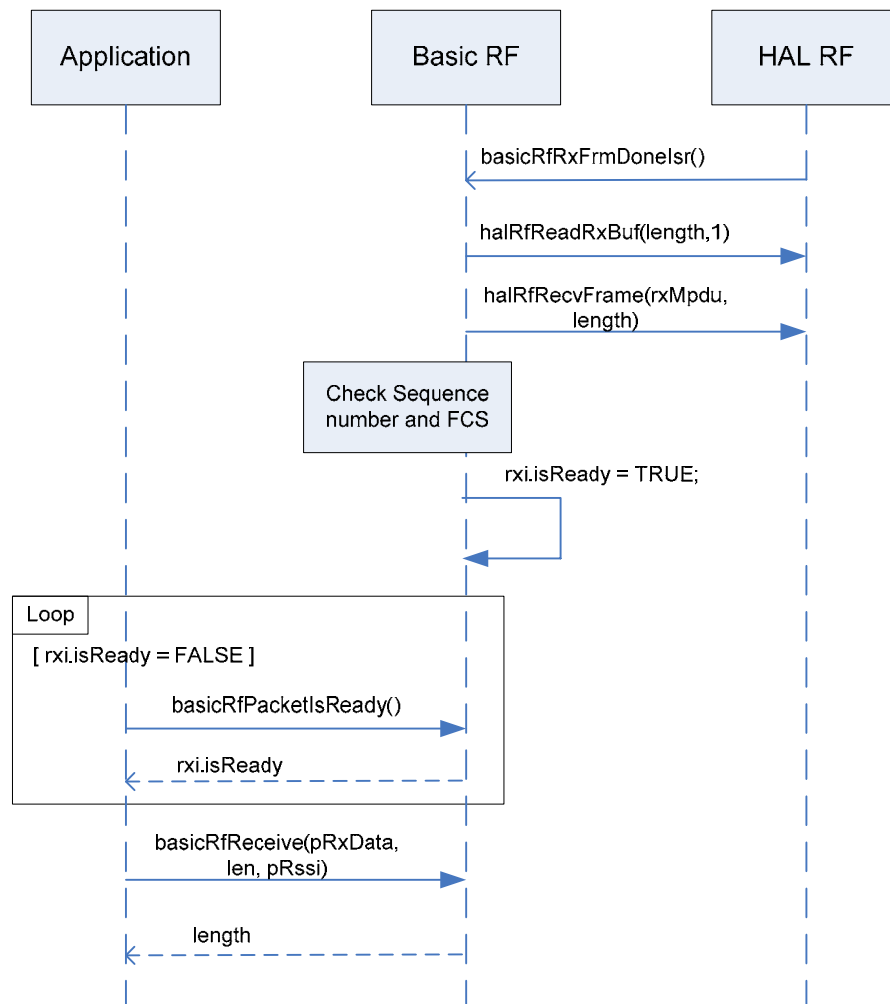

Figure 10 Packet reception
The sequence of function calls for a packet reception scenario with security features disabled is illustrated with Figure 10.
With reference to Figure 10 these are the steps that are performed during a packet reception with acknowledgement request.
1. When a new packet is completely received the RX packet done (RXPKTDONE) interrupt is issued and the rflsr interrupt service routine function in the HAL_RF module is called. This leads to the basicRfRxFrameDoneIsr() interrupt service routine being invoked. See Figure 10.
2. The length of the received frame is read out from the first byte in the RX buffer on CC2530. This is done with the call halRfReadRxBuf(length, 1) in Figure 10.